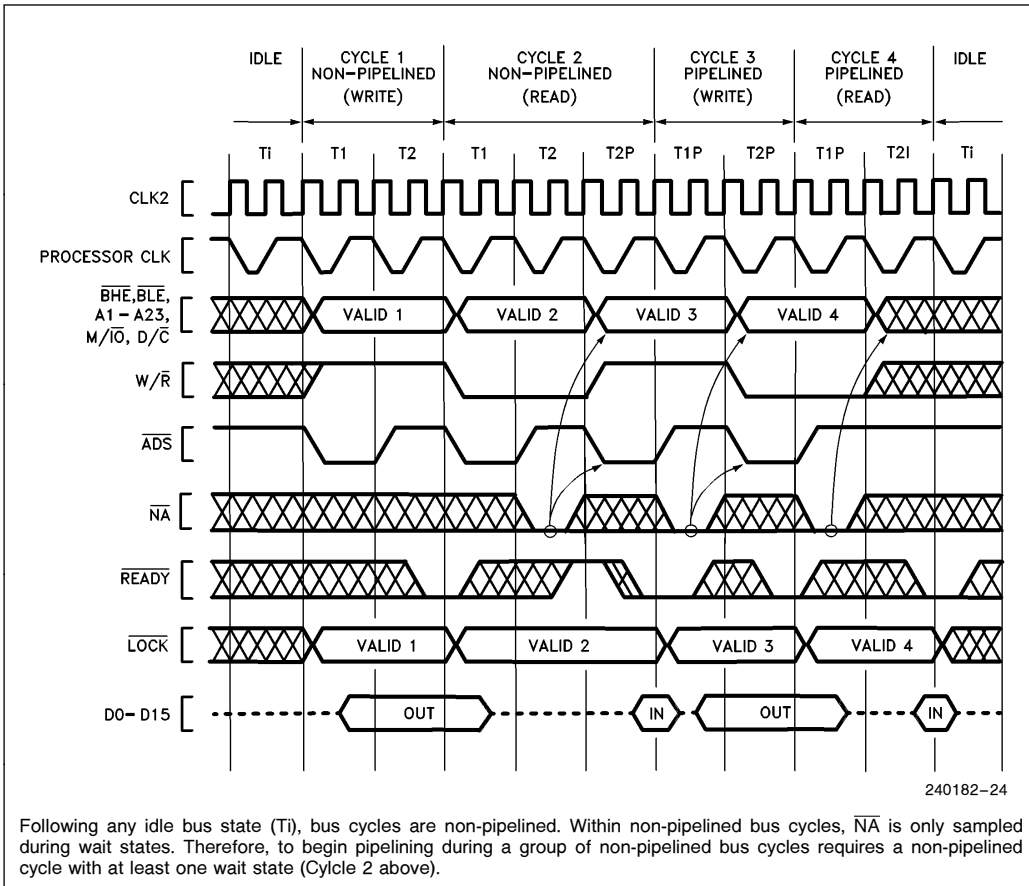
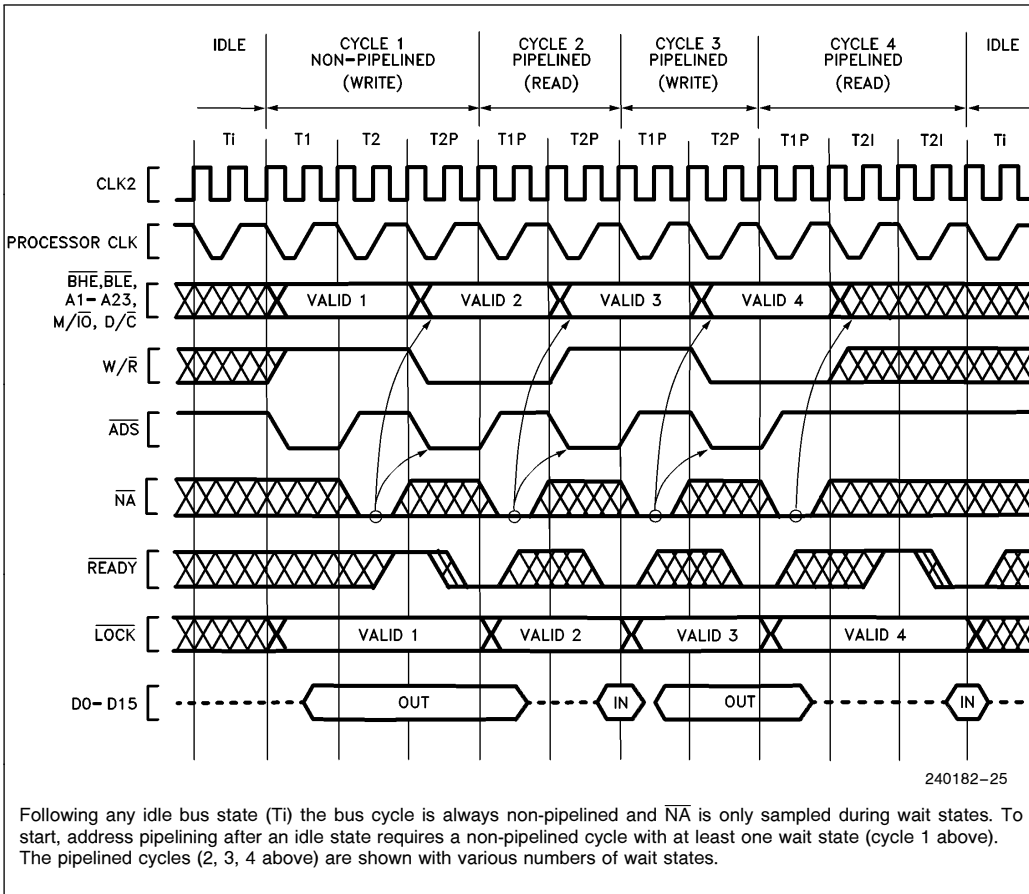
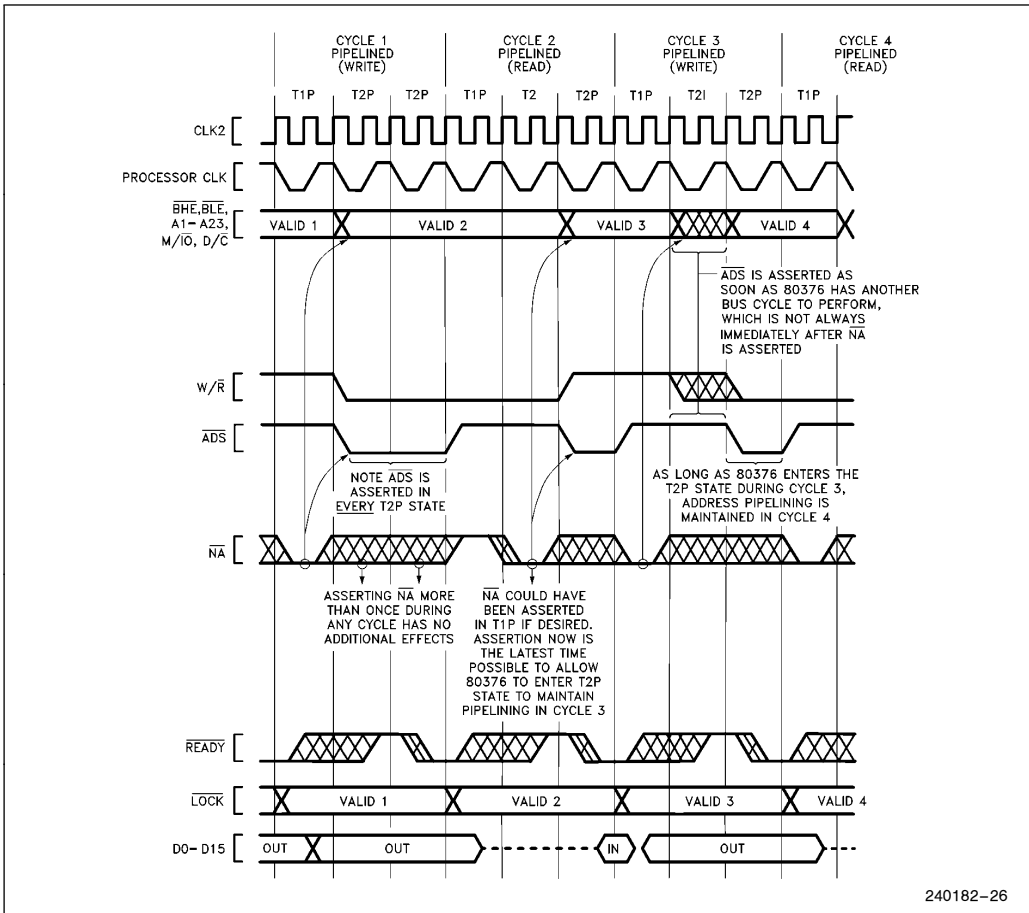

Figure 4.9. Transitioning to Pipelining during Burst of Bus Cycles
Figure 4.10. Fastest Transition to Pipelined Bus Cycle Following Idle Bus State
Figure 4.11. Details of Address Pipelining during Cycles with Wait States
Once a bus cycle is in progress and the current address has been valid for at least one entire bus state, the $\overline{\text{NA}}$ input is sampled at the end of every phase one until the bus cycle is acknowledged. During non-pipelined bus cycles $\overline{\text{NA}}$ is sampled at the end of phase one in every T_2 . An example is Cycle 2 in Figure 4.9, during which $\overline{\text{NA}}$ is sampled at the end of phase one of every T_2 (it was asserted once during the first T_2 and has no further effect during that bus cycle).
1. The next address and status may appear as early as the bus state after \overline{NA} was sampled active (see Figures 4.9 or 4.10). In that case, state T2P is entered immediately. However, when there is not an internal bus request already pending, the next address and status will not be available immediately after \overline{NA} is asserted and T2I is entered instead of T2P (see Figure 4.11 Cycle 3). Provided the current bus cycle isn't yet acknow-
2. Any address and status which are validated by a pulse on the 80376 \overline{ADS} output will remain stable on the address pins for at least two processor clock periods. The 80376 cannot produce a new address and status more frequently than every two processor clock periods (see Figures 4.9, 4.10 and 4.11).
3. Only the address and bus cycle definition of the very next bus cycle is available. The pipelining capability cannot look further than one bus cycle ahead (see Figure 4.11, Cycle 1).
The transition to pipelined address is shown functionally by Figure 4.10, Cycle 1. Note that Cycle 1 is used to transition into pipelined address timing for the subsequent Cycles 2, 3 and 4, which are pipelined. The \overline{NA} input is asserted at the appropriate time to select address pipelining for Cycles 2, 3 and 4.
Sampling begins in T2 during Cycle 1 in Figure 4.10. Once \overline{NA} is sampled active during the current cycle, the 80376 is free to drive a new address and bus cycle definition on the bus as early as the next bus state. In Figure 4.10, Cycle 1 for example, the next address and status is driven during state T2P. Thus Cycle 1 makes the transition to pipelined timing, since it begins with T1 but ends with T2P. Because the address for Cycle 2 is available before Cycle 2 begins, Cycle 2 is called a pipelined bus cycle, and it begins with T1P. Cycle 2 begins as soon as \overline{READY} asserted terminates Cycle 1.
Examples of transition bus cycles are Figure 4.10, Cycle 1 and Figure 4.9, Cycle 2. Figure 4.10 shows transition during the very first cycle after an idle bus state, which is the fastest possible transition into address pipelining. Figure 4.9, Cycle 2 shows a transition cycle occurring during a burst of bus cycles. In any case, a transition cycle is the same whenever it occurs: it consists at least of T1, T2 (\overline{NA} is asserted at that time), and T2P (provided the 80376 has an internal bus request already pending, which it almost always has). T2P states are repeated if wait states are added to the cycle.
Note that only three states (T1, T2 and T2P) are required in a bus cycle performing a **transition** from non-pipelined into pipelined timing, for example Figure 4.10, Cycle 1. Figure 4.10, Cycles 2, 3 and 4 show that pipelining can be maintained with two-state bus cycles consisting only of T1P and T2P.
Once a pipelined bus cycle is in progress, pipelined timing is maintained for the next cycle by asserting \overline{NA} and detecting that the 80376 enters T2P during the current bus cycle. The current bus cycle must end in state T2P for pipelining to be maintained in the next cycle. T2P is identified by the assertion of \overline{ADS} . Figures 4.9 and 4.10 however, each show